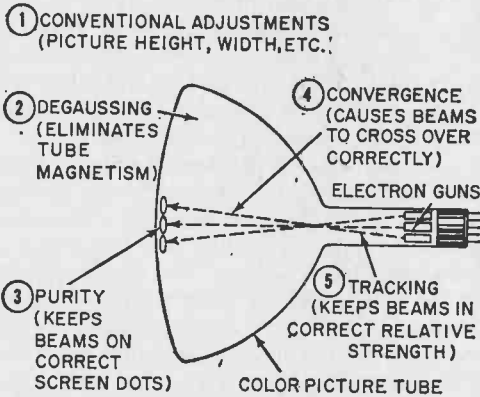

Fig. 2. The five major steps to accomplish in adjusting color TV for optimum performance.
**Major Steps.** Adjusting the color set requires no grasp of complex theory, but a quick preview of major steps (see Fig. 2) and why each is performed could prove helpful. The job begins with: